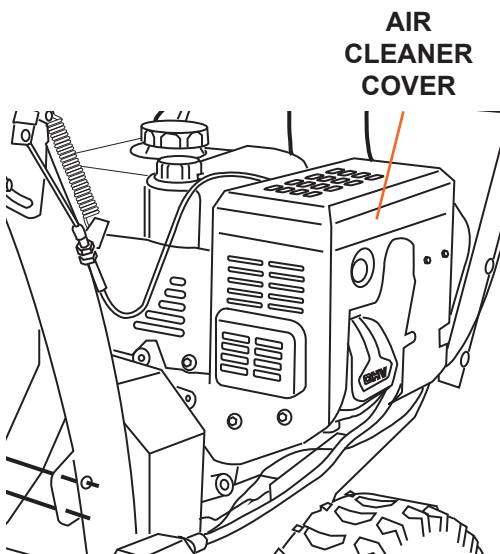

Figure 12
1. Wipe off the air cleaner cover. Loosen the knob at the bottom of the air cleaner housing (see Figure 12).